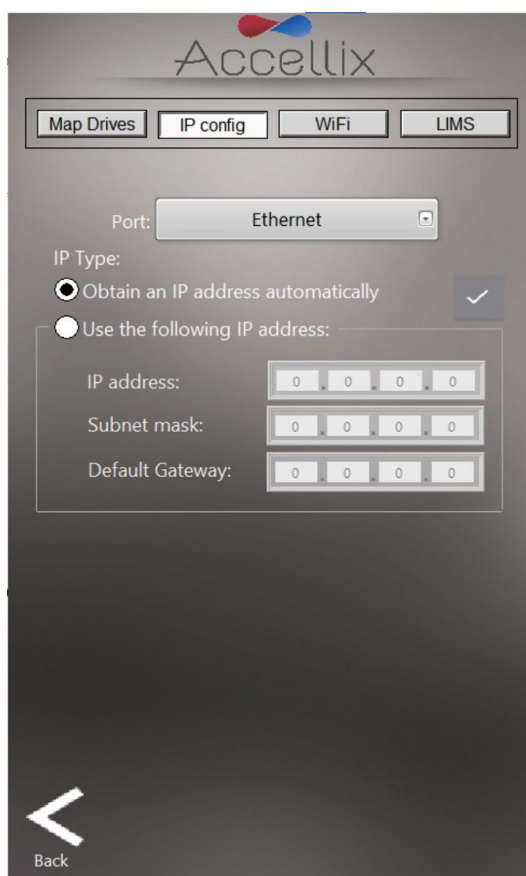

Figure 25: Network screen: IP Config tab
2. The IP config tab (Figure 25) allows the TCP/IP address for either of the Accellix instruments' two Ethernet ports to be configured dynamically or with a static IP address.